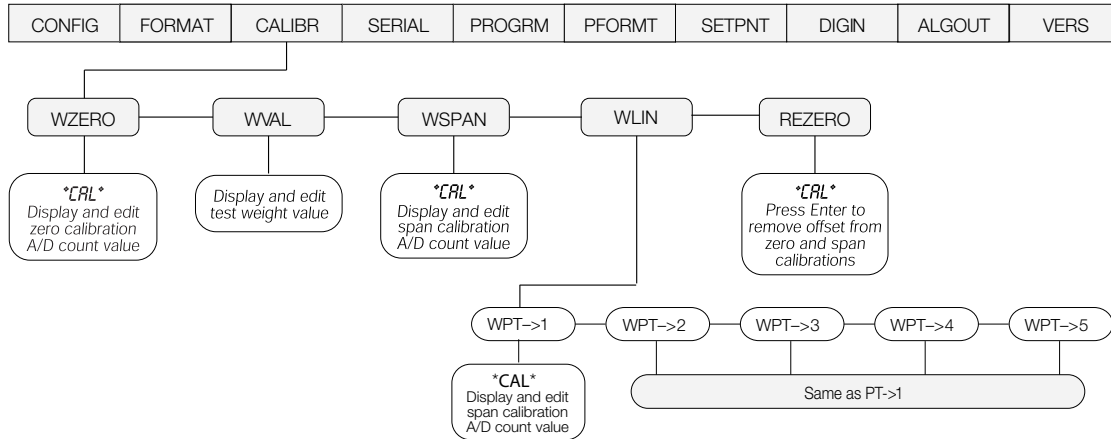

Figure 4-1. Calibration (CALIBR) Menu
2. Press  $\blacktriangleright$  until the display reads *CALIBR* (see Figure 4-1). Press  $\nabla$  to go to zero calibration (*WZERO*).